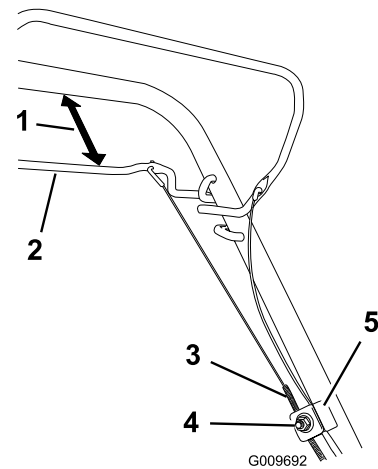

Figure 28
1. Loosen the cable support nut (Figure 28).
2. Hold the self-propel bail 1 to 1-1/2 inches (25 to 38 mm) from the handle (Figure 28).
3. Pull down the cable jacket (toward the mower) until there is no slack in the cable (Figure 28).